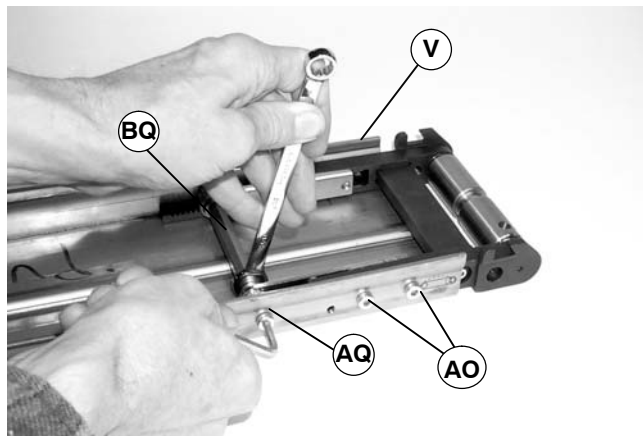

Figure 42
1. Remove two screws (AO of Figure 42) on each side of conveyor (V).